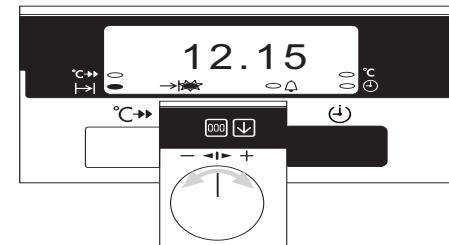

Fig.8
- vi) To set the 'End Time'. Press the Time Selector button until the 'End Time' indicator neon (\rightarrow) flashes. Turn the main oven increase/decrease selector ($+/$ -) until the required stop time is displayed, e.g. 12.15 p.m. as Fig. 8.